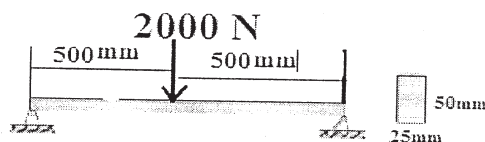

Fig. 7a
- Q7)** a) For the beam shown in figure 7a, determine the displacements and the slopes at element nodes. Also find the reactions and moments at elemental nodes. The modulus of Elasticity is  $E = 20 \times 10^6 \text{ N/mm}^2$ . The cross section is as shown in fig. [10]